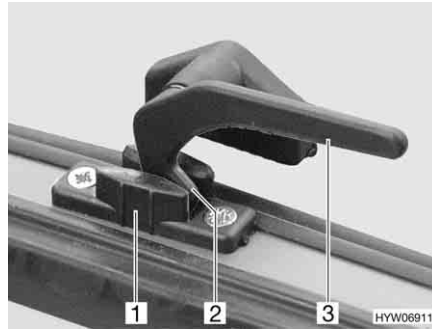

Fig. 68 Catch lever in the "continuous ventilation" position
- "Continuous ventilation" (Fig. 68)
- Turn the catch lever (Fig. 68,3) a quarter turn towards the centre of the window.
- Return the catch lever to its initial position. The locking catch (Fig. 68,2) has to be moved into the recess of window catch (Fig. 68,1).